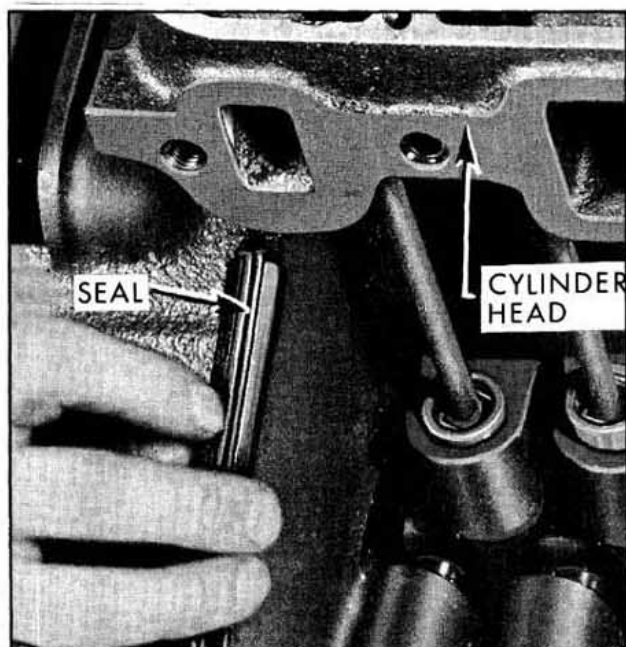

Fig. 3-13 Intake Manifold Seals
1. Place new rubber manifold seal in position at front and rear rails of cylinder block. Be sure pointed ends of seal fit snugly against block and head, (Fig. 3-13)